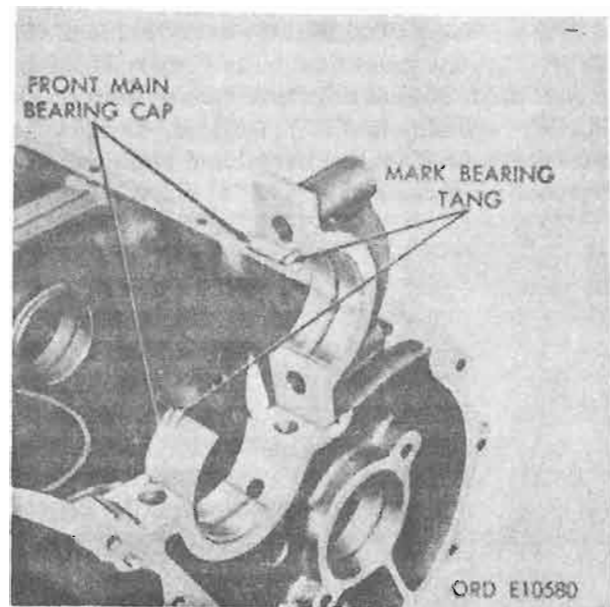

Figure 4-224. Main bearing installation.
a. *General.* After the main bearing clearances have been checked and found satisfactory with the crankshaft to be used (para 4-68), bearings should be removed one at a time and outside surface of tangs lightly marked for position and location so they can be permanently identified for installation in their original positions. Be sure the bearing bores and main bearing halves are clean, and place the tangs in notches provided in edge of bores in cylinder blocks and caps. Refer to figure 4-224.